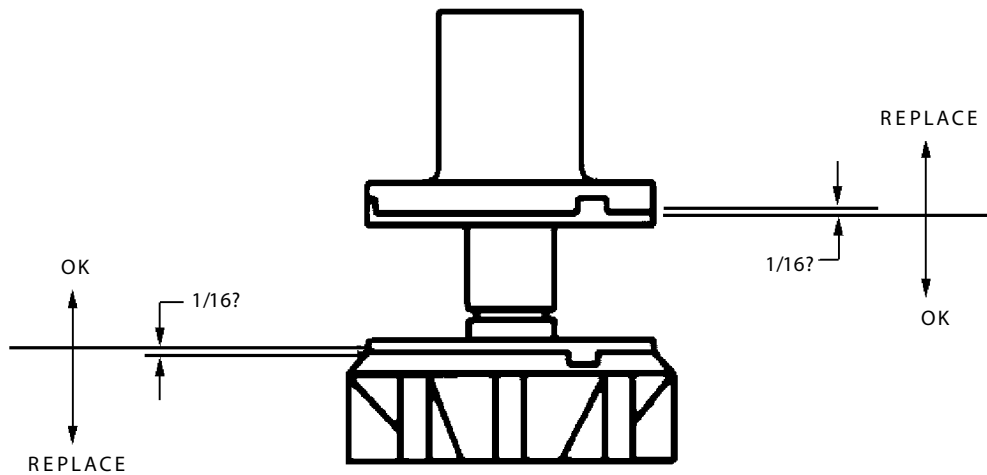

FIGURE 5. UPPER BEARING AND AUGER ASSEMBLY
7. Check white upper bearings on auger assembly. If bearings are less than 1/16" thick, replace. See FIGURE 5.